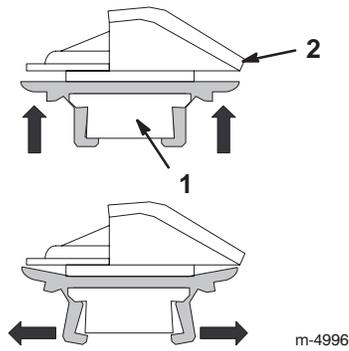

Figure 27
4. Squeeze the black plastic tabs at the base of the blade and pull the blade toward you (Figs. 27 and 28).